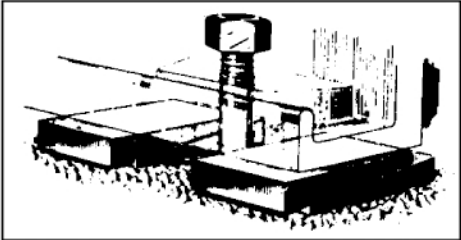

Figure 2 ADJUSTING WEDGES FOR MOUNTING
5. When the unit is received with the pump and the driver mounted on the base plate, it should be placed on the foundation and the coupling halves disconnected. The coupling should not be reconnected until the alignment operations have been completed. The base plate should be supported on rectangular metal blocks and shims or on metal wedges having a small taper. The support pieces should be placed close to the foundation bolts (Figure 2). On large units, small jacks made of cap screws and nuts are very convenient. In each case the supports should be directly under the part of the base plate carrying the greatest weight and spaced closely enough to give uniform support. A spacing of 24 inches is suggested on medium size units. A gap of about ¾ inches to 1½ inch should be allowed between the base plate and the foundation for grouting.